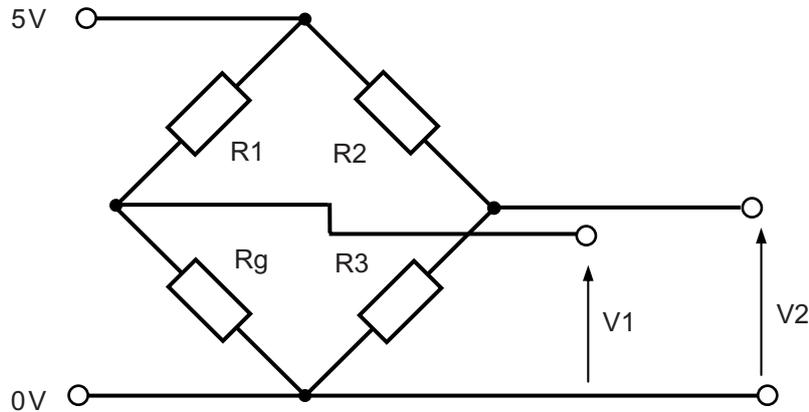

Fig. 2(b)
- (i) State the name of the circuit arrangement shown in **Fig. 2(b)**. [1]